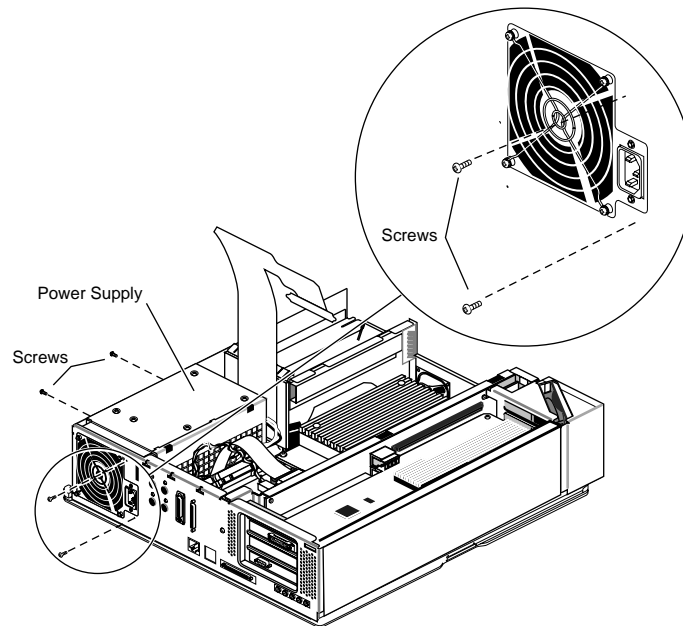

Figure 9-26 Replacing the Screws
4. Replace the four screws that hold the power supply, as shown in Figure 9-26.